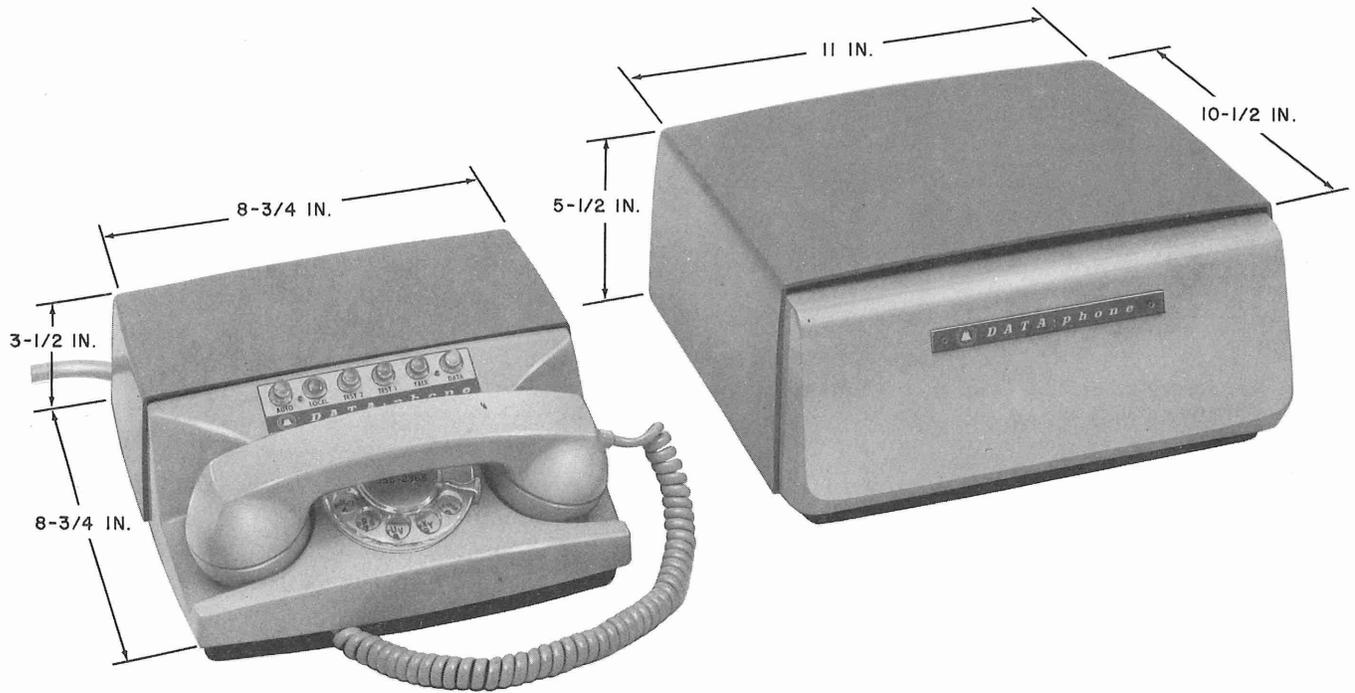
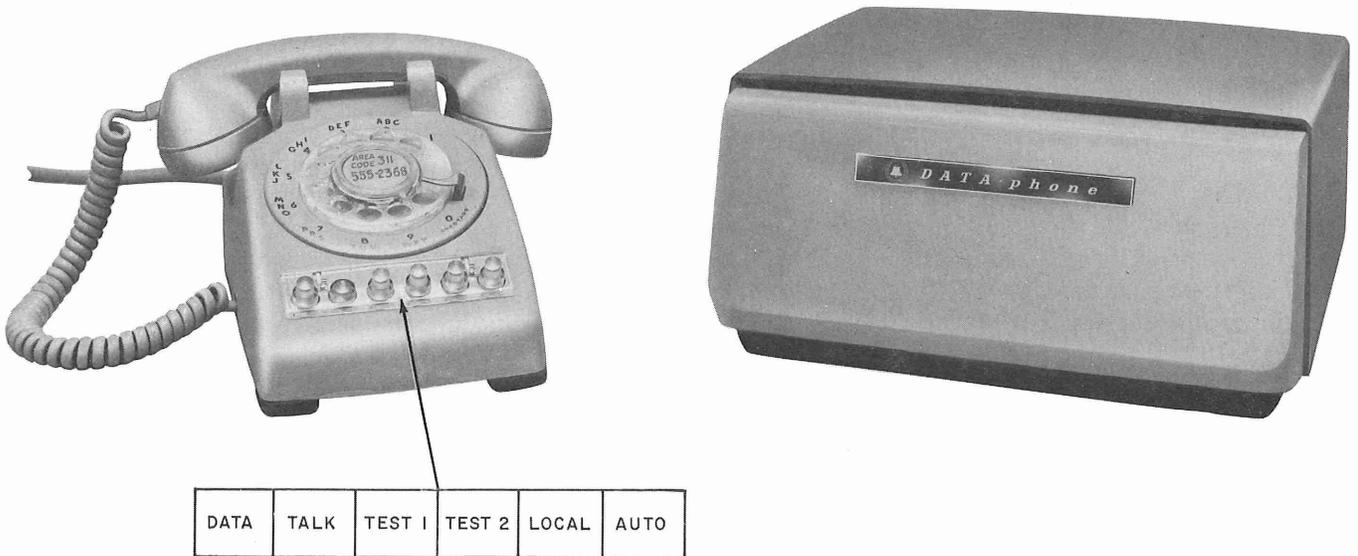

Fig. 1—Data Set 103A-Type and Data Auxiliary Set 804B1
Fig. 2—Data Set 103A-Type and 567PB-61 Telephone Set (MD)
1.04 A data auxiliary set (DAS) 804B1 (Fig. 1) or 567PB-61 telephone set (MD) (Fig. 2) is required for external control of the data set and for establishing the data set transmission path.